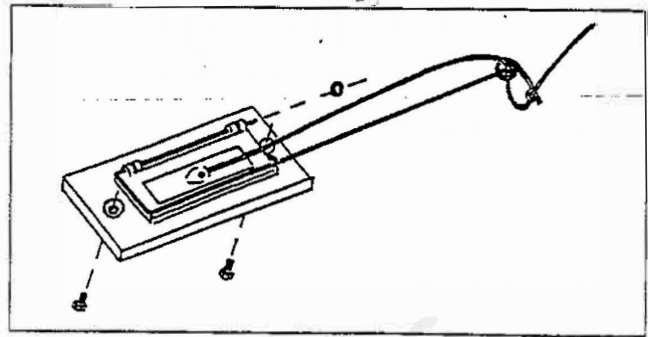

Figure 4. Primary air valve assembly
3. Assemble the primary air valve assembly. Put the air frame face down with the drilled bosses up. Thread the primary air rod through the hole in the bottom of the air valve and just start it into the left top (hinge) hole of the frame. Put the valve and rod in the frame so that the air rod hinge holes align. Push the air rod from left to right through the aligned holes and secure the rod in the frame with the 1/8" friction clip. (**Figure 4**). Turn the assembly over and install the socket head cap (adjusting) screw, 1/4-20 x 3/16", in the center of the air valve, finger tight.
Pull the running end of the cable over to the valve and thread it through the small hole in the center of the valve. Pull 6" of cable outside the valve. Tighten the set screw finger tight. (**Figure 4&5**).